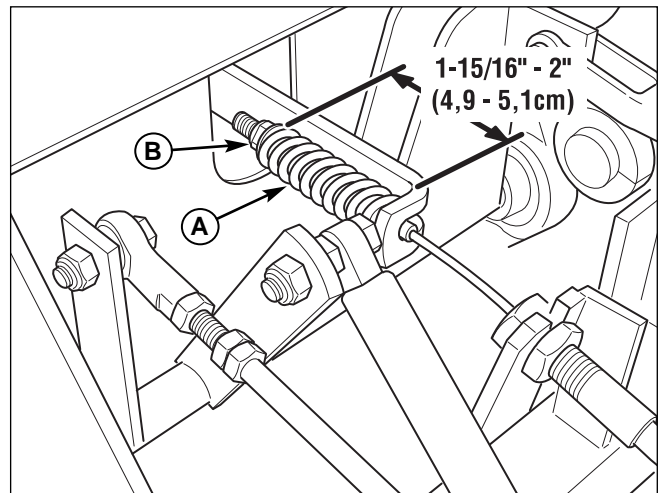

Figure 34. Parking Brake Adjustment
3. Locate the brake spring (A, Figure 34).
5. If the spring is not within this range, release the parking brake and turn the adjustment nut (B) to compress or release the spring.